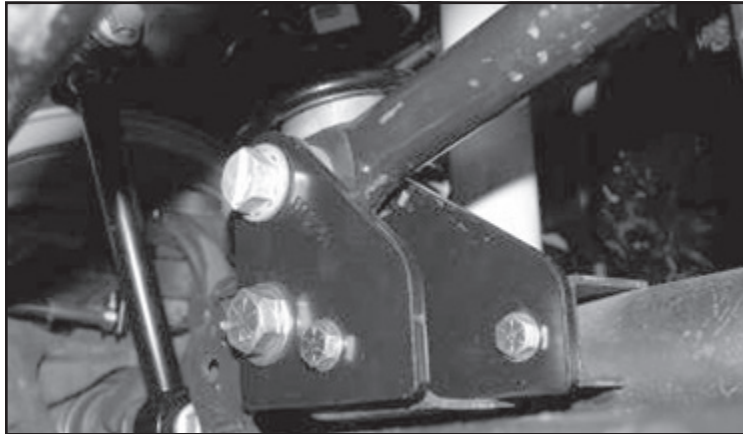

**FIGURE 27 - STEP 17**
17. Locate FT50261 Front Sway Bar Endlinks, FT50048 & FT5009 bushing and sleeve kits. Press one bushing and one sleeve from the supplied bushing kit into each end of the end link. With the factory hardware, connect the new end link to the sway bar, then using the supplied 1/2" x 2 3/4" bolt, nut, and washers connect to the lower sway bar mount. Torque the upper hardware to 40 lbs and the lower hardware to 75 ft-lbs. **SEE FIGURE 27**